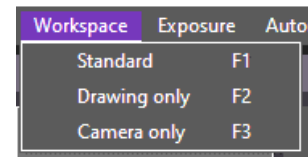

Figure 21 – Camera view panel during focus setting
- Click on the button **FOCUS MODE** in the **EXPOSURE** panel (Figure 10). The camera live view will start automatically in the **CAMERA VIEW** panel (Figure 21).
- Click on the **MICROSCOPE MODE** button in the **EXPOSURE** panel (Figure 10). The camera live view will start automatically in the **CAMERA VIEW** panel (Figure 21).